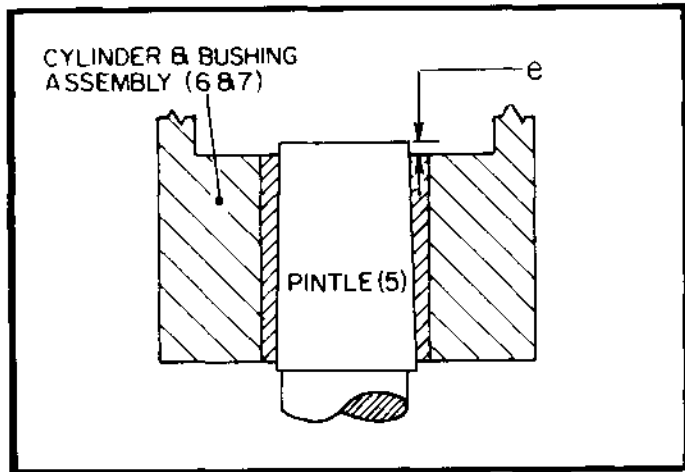

Figure 5. Basic "c" Dimension (Cylinder "tight" Position). (508644)
in a press, open end up. Approximately 100 tons of force is needed to press pintle into case. Apply "Molycoat" to large tapered surface of pintle to provide lubrication during assembly. Locate pintle with key (77). Position a sleeve over small pintle end, against large diameter shoulder. Install pintle flush with back of rear case. Cylinder bushing (7) and pintle (5) have a .032" taper per inch of length. Clean pintle and bushing surfaces. Using a crane, suspend cylinder and bushing assembly above pintle, large end of bore down, then slowly lower assembly over pintle until cylinder begins to become tight on pintle. Avoid scraping against edges of pintle ports. Do not rest entire weight of cylinder on pintle as it will become too tight and damage bushing. At this point the pintle should project past cylinder bushing an amount described in "IV" SPECIFICATIONS. See Figure 5. Write down this dimension. This is the "c" dimension—the base figure used in shimming the pump. Remove cylinder from pintle.